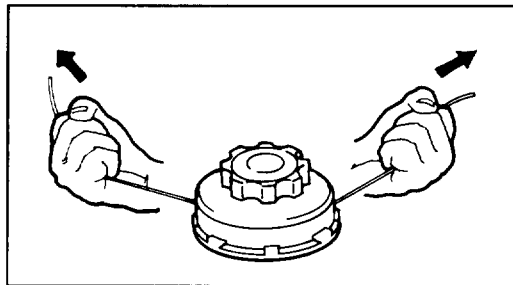

Figure 9
2. Slowly pull out desired amount of line (Fig. 9).